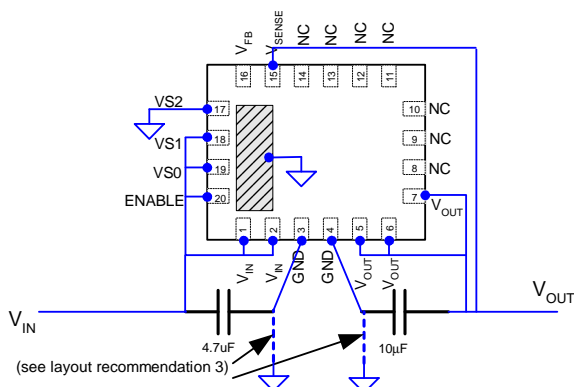
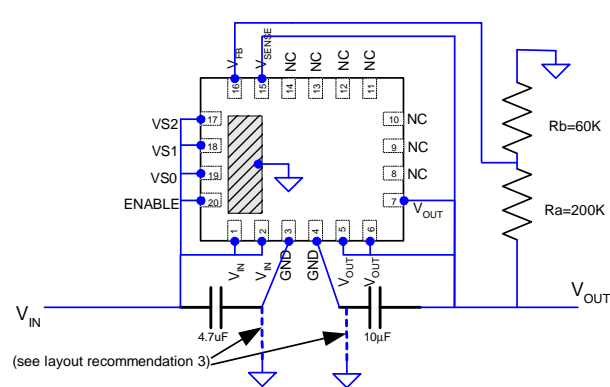

Figure 6. Example application,  $V_{out}=1.5V$ .
Figure 7. Example Application, external divider,  $V_{out} = 2.6V$ .
**Recommendation 3:** Multiple small vias (0.25mm after copper plating) should be used to connect ground terminals of the Input capacitor and the output capacitor to the system ground plane. This provides a low inductance path for the high-frequency AC currents; thereby reducing ripple and suppressing EMI (see Fig. 6, Fig. 7, and Fig. 8).
Figure 6 shows an example schematic for the EN5312QI using the internal voltage select. In this example, the device is set to a VOUT of 1.5V ( $VS_2=0$ ,  $VS_1=1$ ,  $VS_0=1$ ).
Figure 7 shows an example schematic using an external voltage divider.  $VS_0=VS_1=VS_2=“1”$ . The resistor values are chosen to give an output voltage of 2.6V.